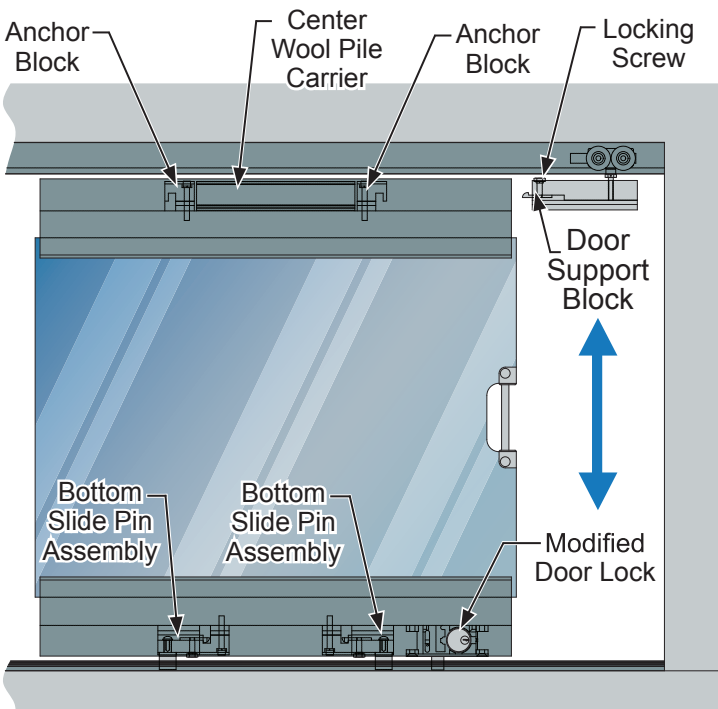

FIG. 9
1. Lift the sliding panel and insert the bottom slide pin assembly on the door into the recessed guide channel or into the optional surface mounted saddle threshold. **(FIG. 9)**